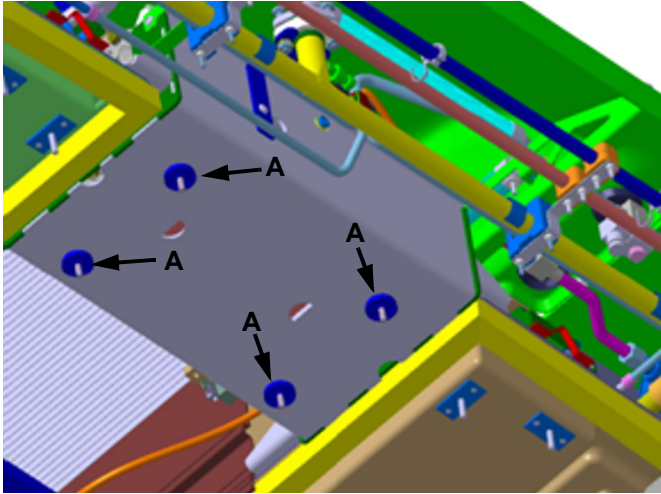

Figure 14: Screw-on points of the compressor pan REVO-E
3.3. Fig. 14 and 15: The screw-on / support points of the compressor pan are provided with adhesive.